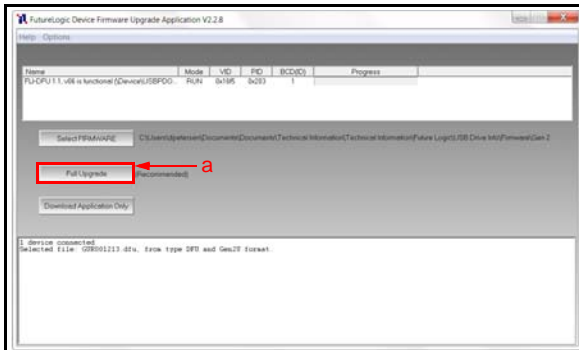

Figure 8 Select the Full Upgrade Button
- Click the Full Upgrade button (Figure 8 a).